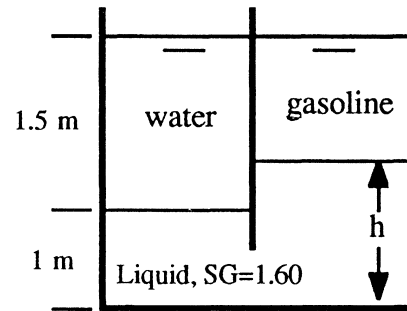

Fig. P2.13
**2.13** In Fig. P2.13 the 20°C water and gasoline are open to the atmosphere and are at the same elevation. What is the height  $h$  in the third liquid?